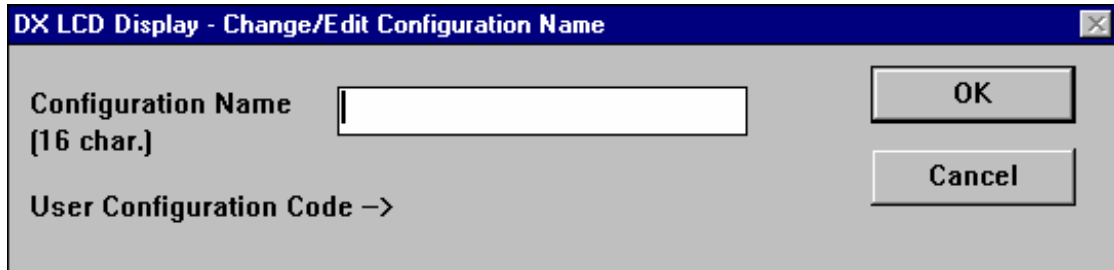

Figure 12-3: Configuration Name Dialog Box
1. On the DX LCD Display menu, click Configuration Name. The DX LCD Display - Change/Edit Configuration Name dialog box appears (Figure 12-3).